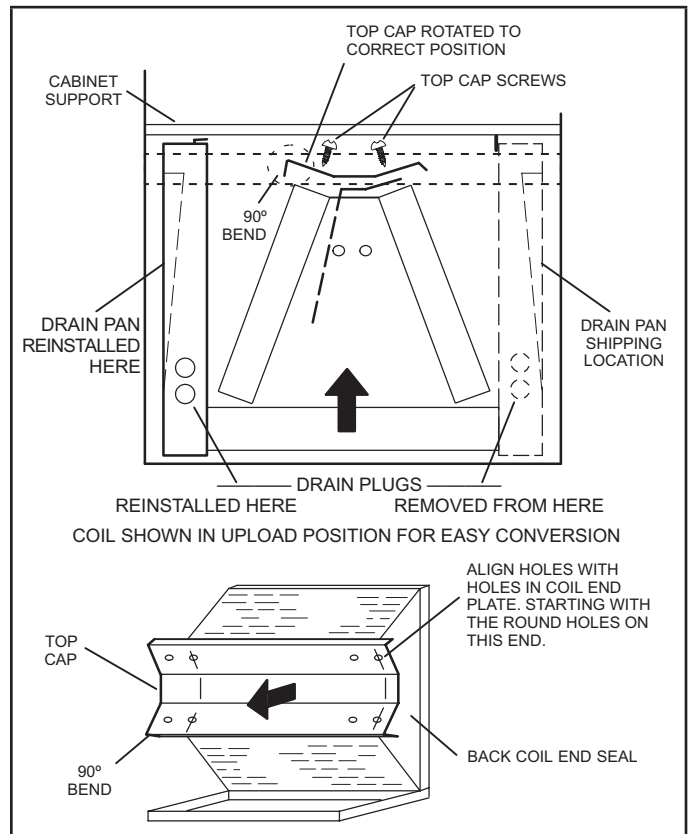

FIGURE 4. Field Modification for Left-Hand Discharge
- 7 - Rotate top cap 180° front-to-back and align with unused screw holes. Holes must align with front and back coil end plates. The top cap has a 45° bend on one side and a 90° bend on the other. **The 90° bend must be on the same side as the horizontal drain pan as illustrated in figure 4.**